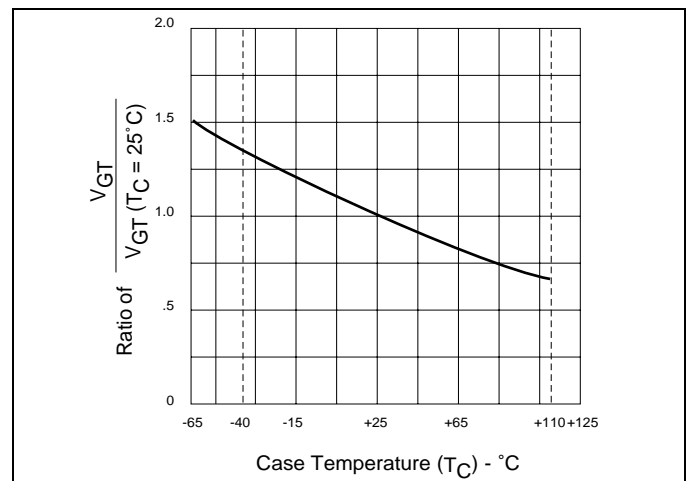

Figure 1.6 Normalized DC Gate Trigger Voltage for All Quadrants vs Case Temperature
- See Figure 1.6 for V_{GT} vs T_C .